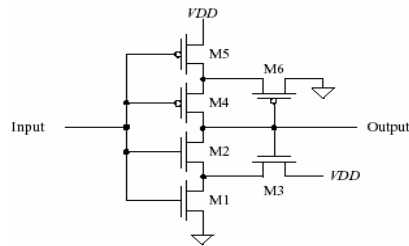

Figure 18.3 Schematic of the Schmitt trigger.
18.1) Given that we need to design a Schmitt Trigger (refer to Fig 18.3 below for schematic) having a $V_{SPH} = 0.55$ V and $V_{SPL} = 0.35$ V. We start by finding the transconductance ratios for the upper and lower switching point voltages. This is done by using equations (18.4) and (18.6):